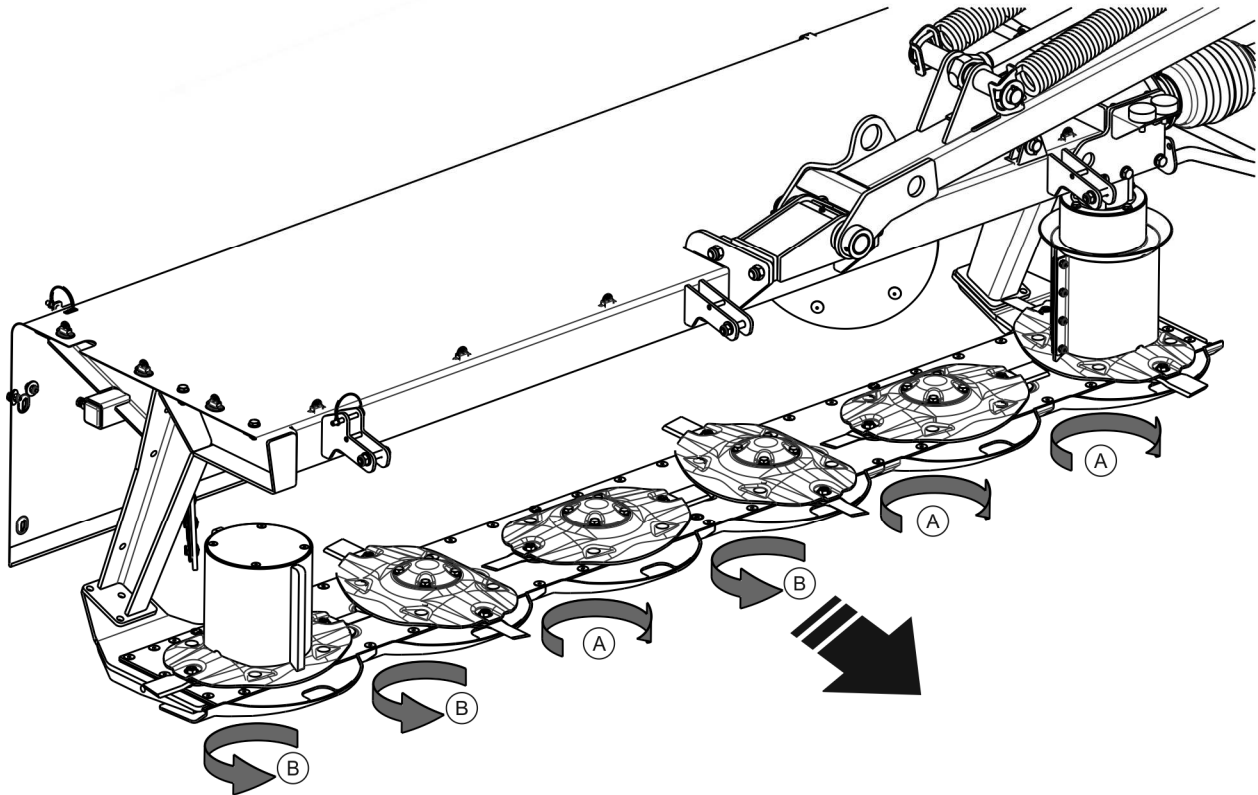

FIG. 5.2 Knife types depending on cutting disc rotation direction
Due to different cutting disc rotation direction, cutter bar (figure 5.2) is equipped with the right blades (A) and left blades (B). Rotation direction is indicated on the knife.